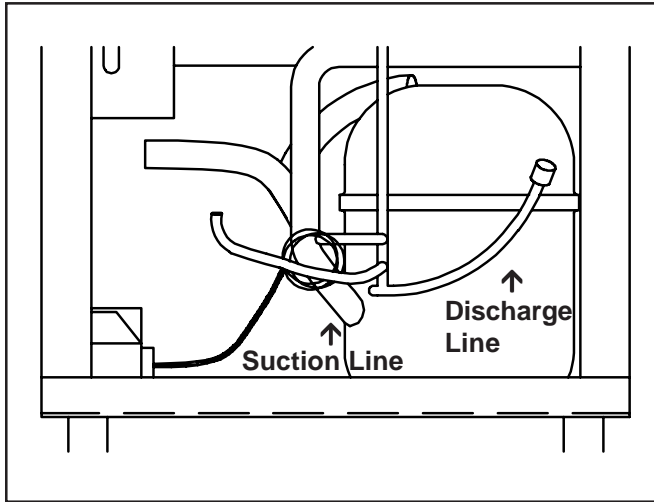

Figure 44. Compressor Removal
4. Unsweat the suction line and discharge line from the compressor (Fig.44).